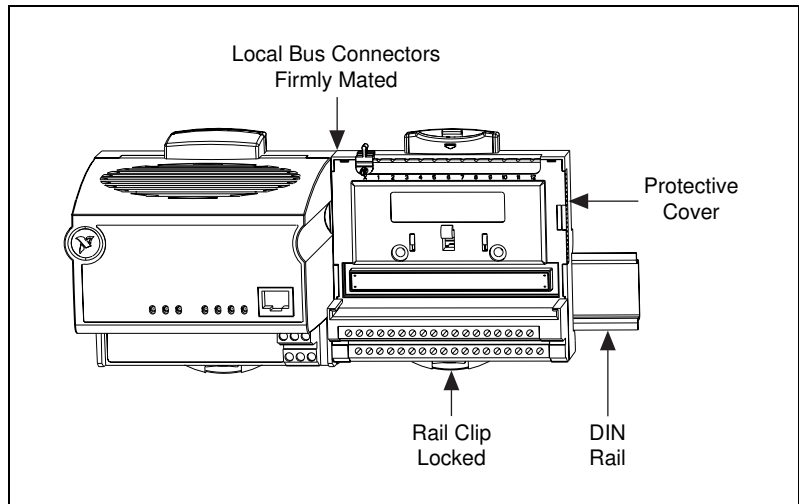

Figure 2-3. Connecting Terminal Bases
| Figure 2-3. | Connecting Terminal Bases..... | 2-3 |
4. Place the protective cover onto the local bus connector of the last terminal base on the bank, as shown in Figure 2-3.